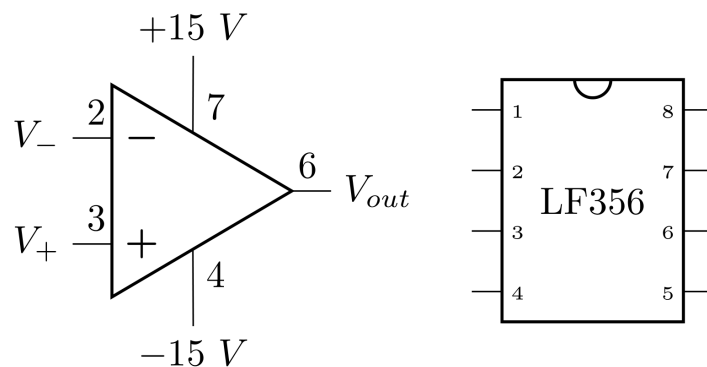

Figure 4: LF356 schematic and pin-out.
1. This experiment will use both +15 V and -15 V to power the LF356 op-amp. Make sure you **un-plug** the DC supplies while wiring your op-amp (you may find it useful to plug them into their own power strip). Everyone makes mistakes in wiring-up circuits. You should always check your circuit over before applying power. Figure 4 shows a pin-out for the LF356 chip. Familiarize yourself with the layout. The following procedure will help you wire up a circuit accurately: